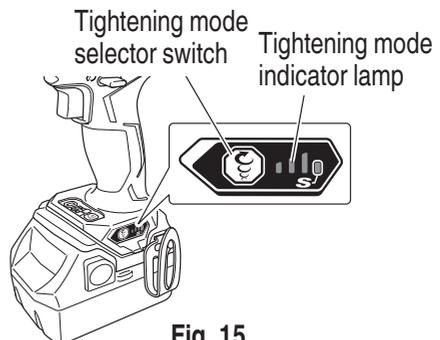

Fig. 15
7. Tightening mode selector function (**Fig. 15**)